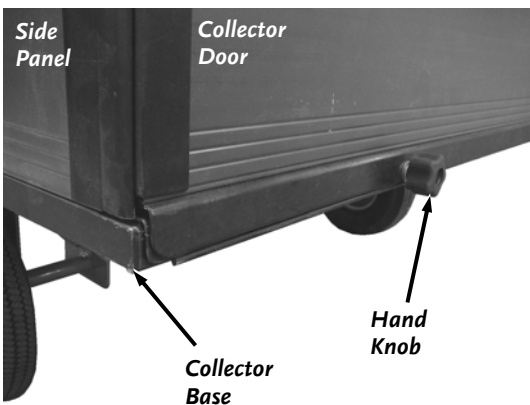

Figure 12
14. Secure the Door by screwing in the two Hand Knobs at the bottom to the end of the Collector Base (**Figure 12**).